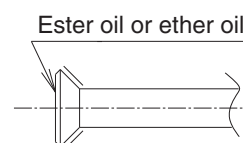

Fig. 12
- When connecting the flare nut, coat only the inner surface of the flare with ester oil or ether oil, rotate three or four times first, then screw in. (Refer to Fig. 12)